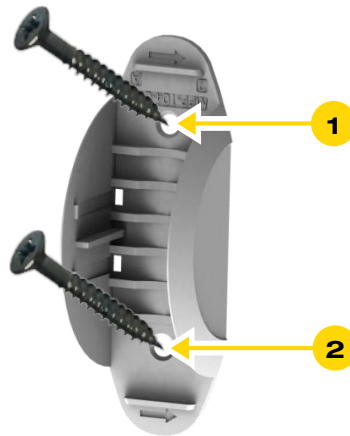

Figure 141: Universal Transmitter Base with Screws
The base should be disassembled from the Universal Transmitter body, as demonstrated in Figure 140 below, and attached either by the double-sided tape (pre-attached to the base) or using screws as demonstrated in Figure 141 below.
2. Use a flat screwdriver to remove the punch-outs 1 and 2 (see Figure 141 below).